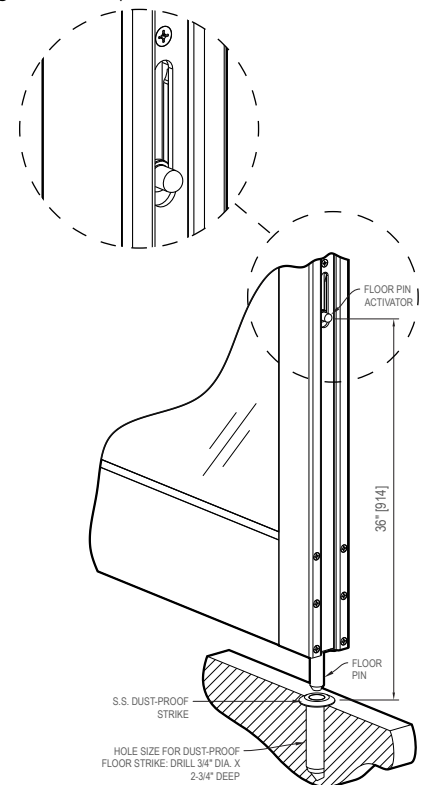

Fig. 4
WAIST-HIGH ACTIVATED FLOOR PINS (Fig. 4):
4. If the last panel is a Pivot Panel, set the Jamb Panel (the panel adjacent to the Pivot Panel) into position and drop the waist high activated floor pin (Fig. 4). The Pivot Panel can now be operated.
1. Move Pass Door panel and its strike panel in the run, set the edge activated floor pin at strike panel into its floor plate as described above. (Fig. 4)
5. If the last panel is a Pivot Panel, set the Jamb Panel (the panel adjacent to the Pivot Panel) into position and drop the waist high activated floor pin. (Fig. 4) The Pivot Panel can now be operated.